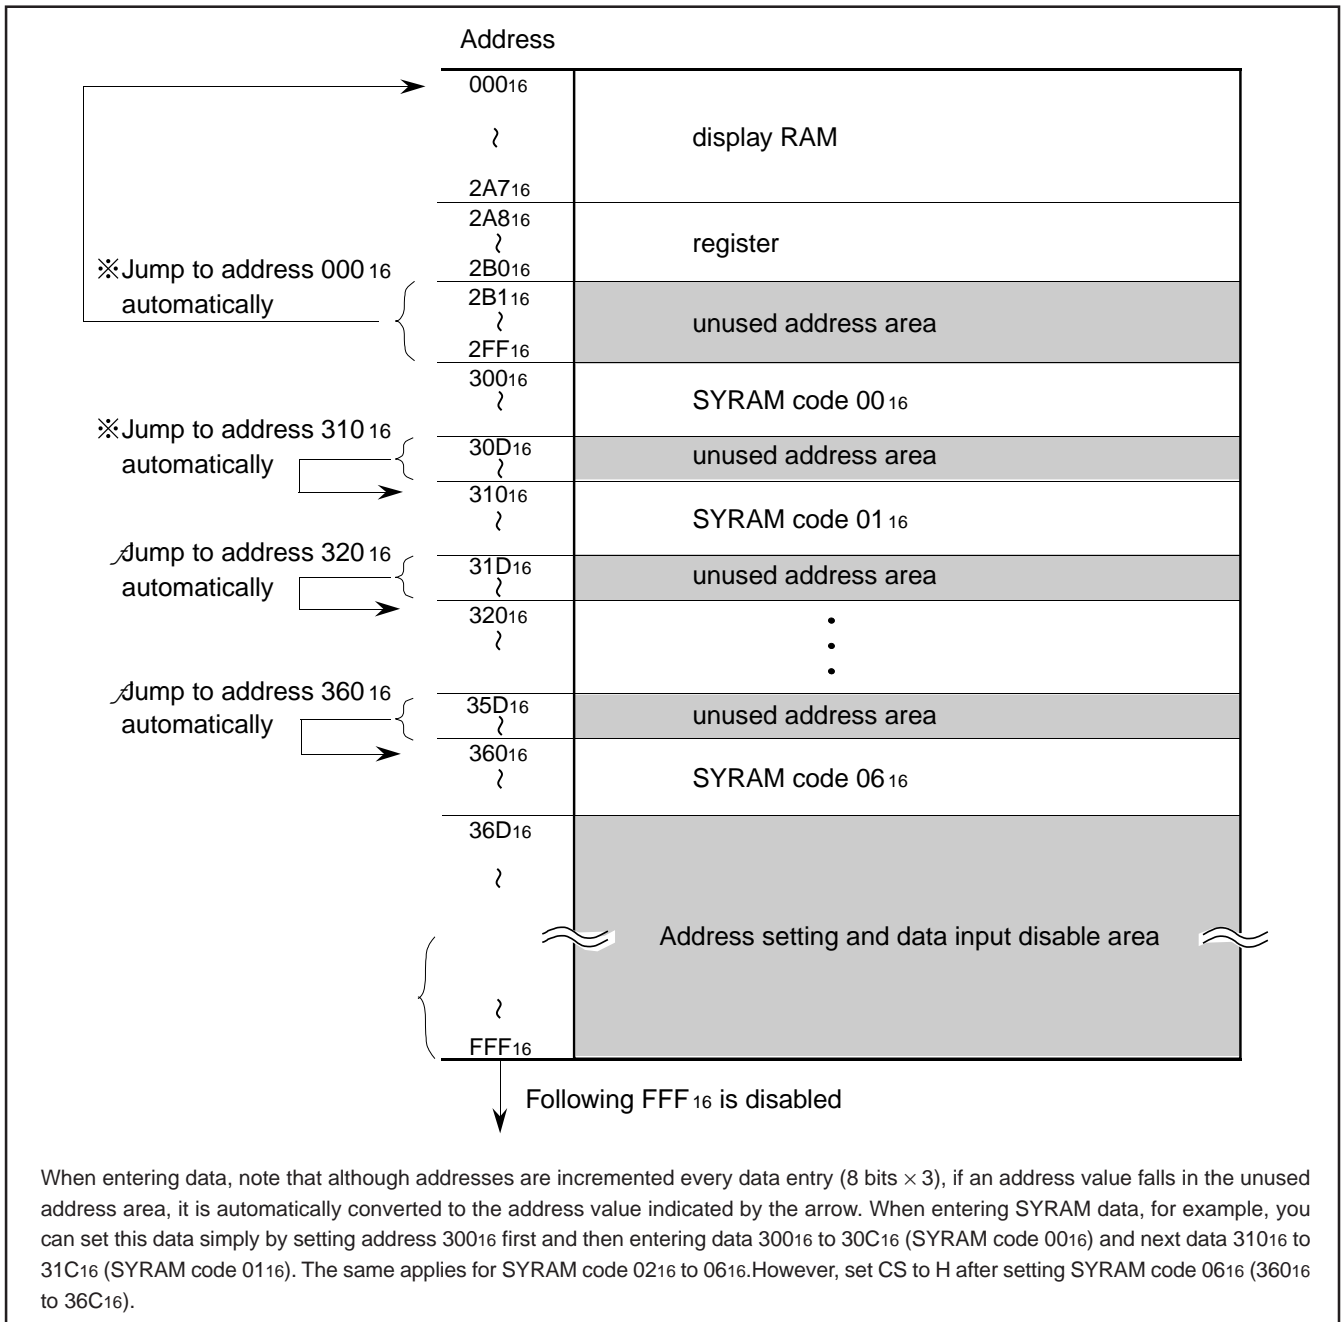

Fig. 12 Address construction
- (1) The address consists of 8 bits × 3.
- (2) The data consists of 8 bits × 3.
- (3) The 8 bits × 3 in the SCK after the  $\overline{CS}$  signal has fallen are the address, and for succeeding input data, the address is incremented every 24 bits (8 bits × 3). Refer to Fig.12 about detail for address increment.